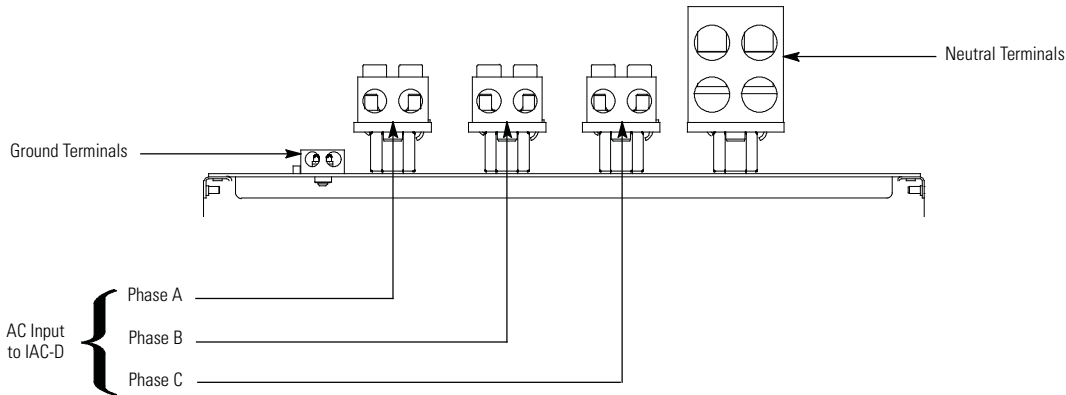

Figure 4-12. Input Power Terminal Detail – 93E 30IAC-D and 93E 60IAC-D
6. Connect phase A, B, and C, Neutral, and Ground power wiring to the corresponding terminals on IAC-D. See Figure 4-12.
12. Connect phase A, B, and C, Neutral, and Ground power wiring to the corresponding terminals on IAC-D. See Figure 4-12.